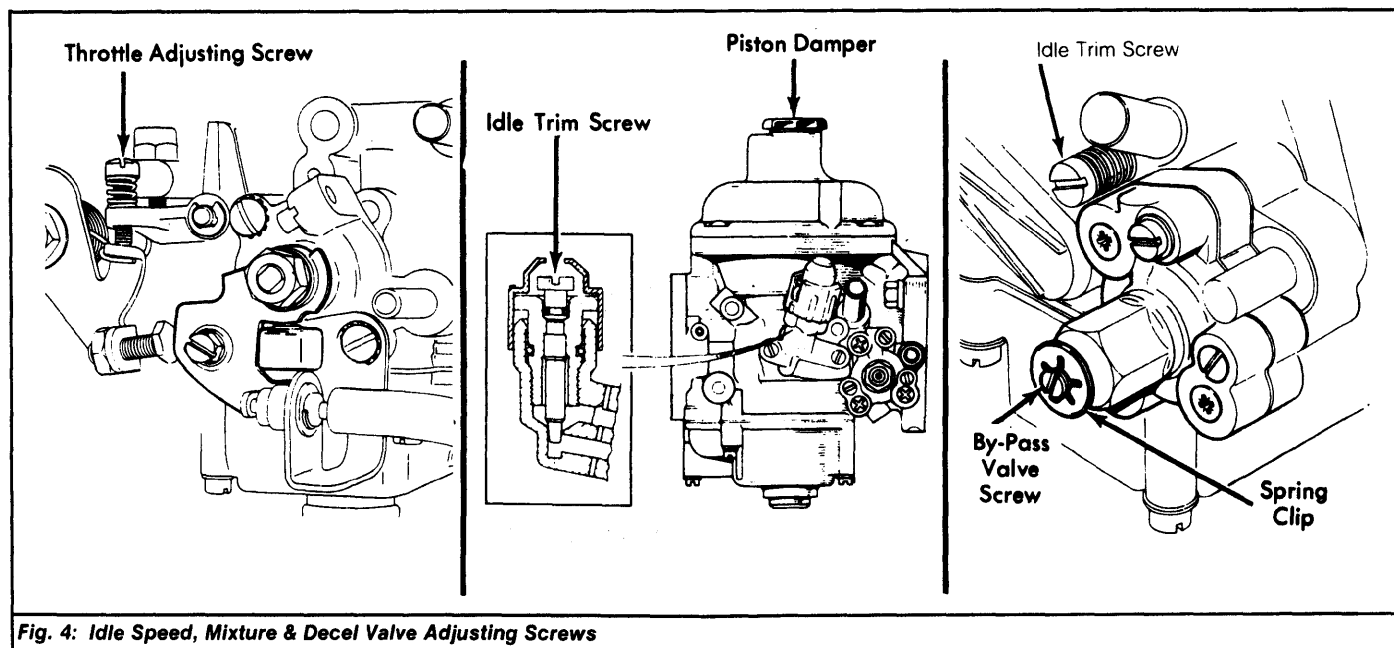

Fig. 4: Idle Speed, Mixture & Decel Valve Adjusting Screws
2) On models with a single carburetor, adjust idle speed to specifications by adjusting throttle adjusting screw. See Fig. 4. On models with dual carburetors, use an airflow meter and synchronize carburetors. Adjust idle speed to specifications by adjusting throttle adjusting screw on each carburetor an equal amount.
2) If engine speed increases to 2000-2500 RPM, decel valve will need to be adjusted. To adjust, turn by-pass valve adjusting screw until speed drops to 1300 RPM, then turn screw an additional 1/2 turn to fully seat valve. See Fig. 4.